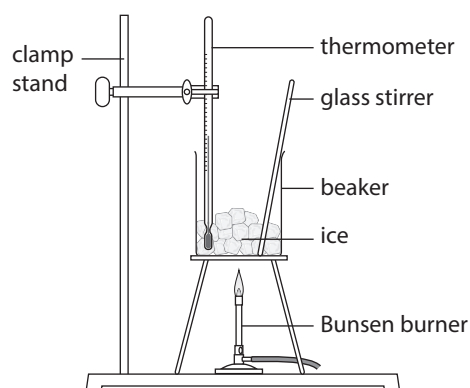

Figure 2.1
- 4 Place the beaker on the tripod and gauze. Use the clamp and clamp stand to hold the thermometer in the beaker. You can use the diagram in Figure 2.1 to help you.